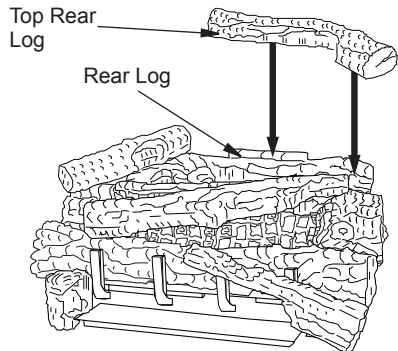

Figure 38 - Installing Top Rear Log
11. Place the top rear log onto the rear log as shown. The rear log has a projection that will fit into the recess area on the bottom of the top rear log (see Figure 38).